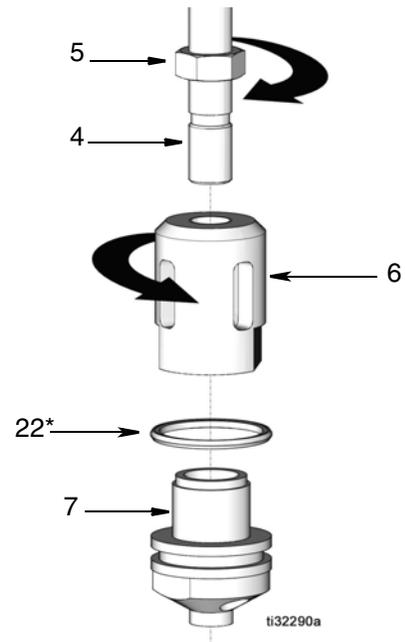

FIG. 14
4. Replace piston seal (22*) on valve housing piston (7) (FIG. 14).
5. Screw the connecting rod (4) into the valve housing (6) and adjust the ball travel as instructed in **Check Valve Adjustment** on page 13 Tighten nut (5) to 60 ft-lb (81.35 N•m) (FIG. 14).